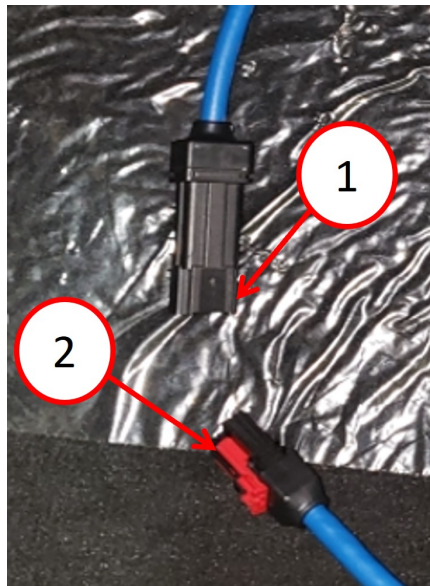

Fig. 3
4. Connect the jumper wiring harness cable connector to the VRM wiring harness cable connector (Fig. 3) .